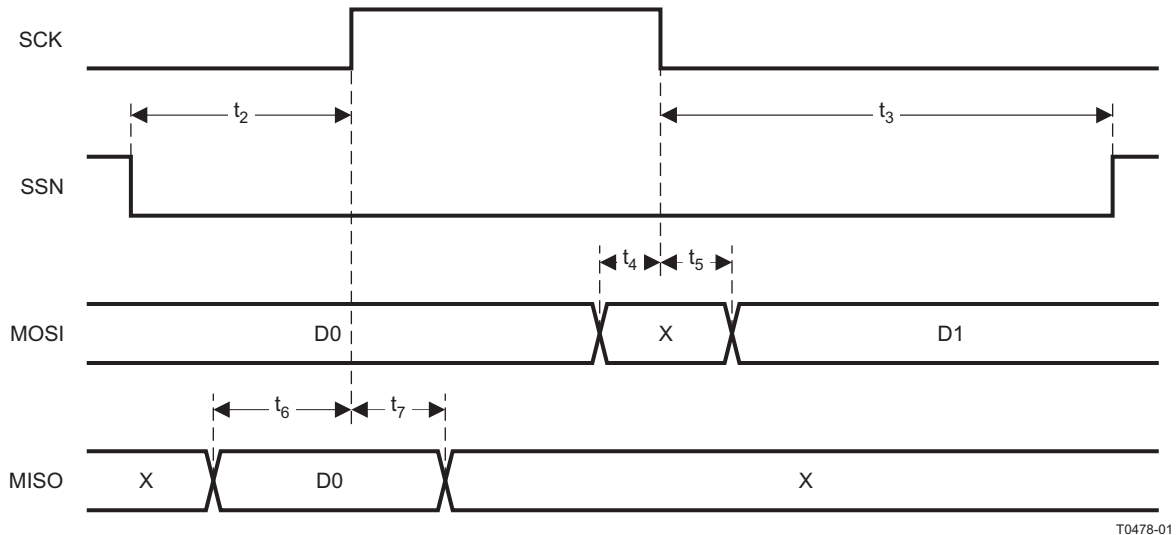

**Figure 2. Control Input AC Characteristics**
| RESET_N low duration                                                           | See item 1, <a href="#">Figure 2</a> . This is the shortest pulse that is recognized as a complete reset pin request. Note that shorter pulses may be recognized but do not lead to complete reset of all modules within the chip. | 1   |     |     | $\mu\text{s}$ |
| Interrupt pulse duration                                                       | See item 2, <a href="#">Figure 2</a> . This is the shortest pulse that is recognized as an interrupt request.                                                                                                                      | 20  |     |     | ns            |